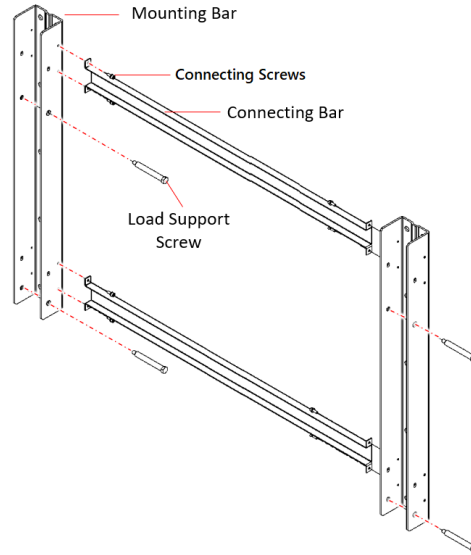

Figure 20: Assembling the Mounting Bracket
1. Insert and secure the four Load Support Screws into the two Mounting Bars (see *Figure 20*). Torque the Load Support Screws to 8 N\*m/71 lb\*in.